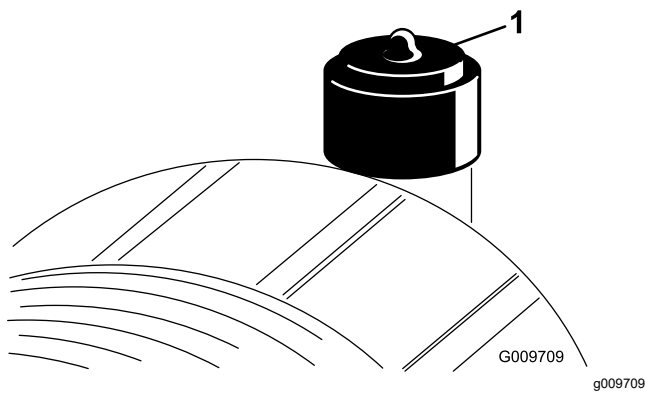

Figure 49
Service the air-cleaner filter only when the service indicator (Figure 49) requires it. Changing the air filter before it is necessary only increases the chance of dirt entering the engine when you remove the filter.
2. Reset the indicator (Figure 49) if it shows red.